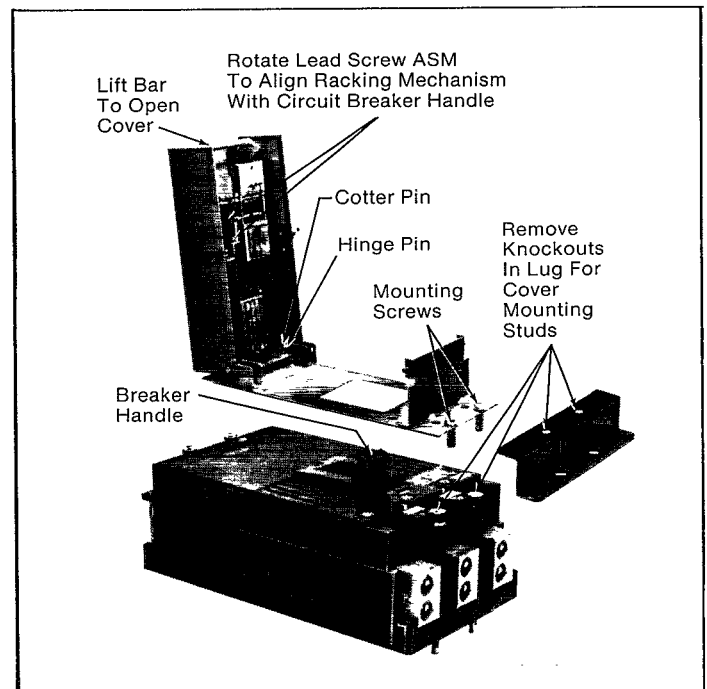

Fig. 1.
Lift the cover to disengage the handle and operate the breaker handle. (See Fig. 1.) To return the breaker to electrical operation, align the breaker handle with the operating mechanism and close the cover. (See Electrical Operation.)
1. When the motor-operated mechanism is installed on Types TK4V, THK4V, TKL4V, THK9V, THK9VV, TKH8/12, and TKL8/12 breakers, the mounting plate must be removed and an optional mounting plate installed. Remove cotter pins (shown in Fig. 1) from hinge pins. Remove hinge pins and remove assembled mounting plate. Position the optional mounting plate (supplied). Assemble hinge pins and assemble new cotter pins supplied with the mounting hardware kit. (Fig. 3).
4. Remove knockouts in lug covers and assemble mechanism to circuit breaker. See Fig. 1.
6. Align racking mechanism and circuit breaker handle by rotating lead screw or by moving circuit breaker handle. Close cover. See Fig. 1.